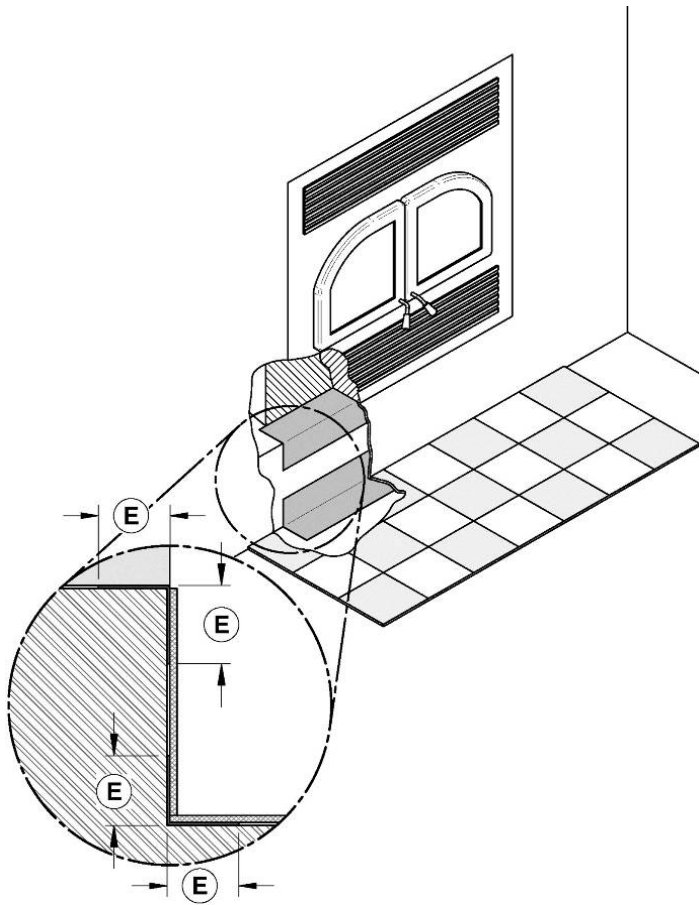

Figure 14 : Raised base installation of more than 4"
However, the upper and lower angle, for the full width of the floor protection, must be protected 2" horizontally and 2" vertically (E) by a piece of sheet metal (not included). (See **Figure 14: Raised base installation of more than 4"**). For example, a piece of sheet metal (not included). Apart from these two corners, the sheet metal does not have to cover the rest of the wall between the base of the fireplace and the floor.